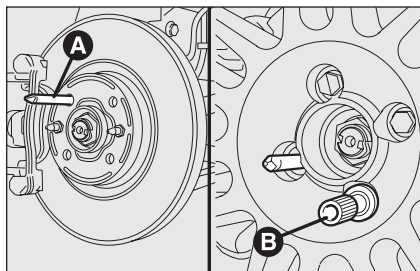

fig. 9
- tighten pin **A**-fig. 9 in one of the holes of the wheel hub fastening bolts;